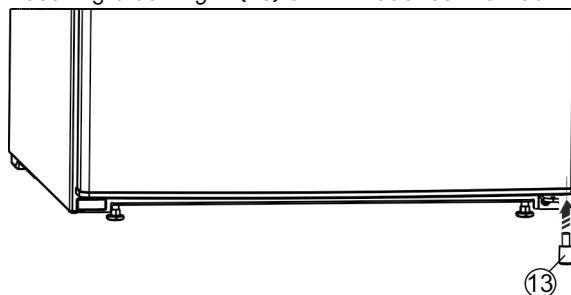

Fig. 11
- Insert the spacer *Fig. 11 (13)* back under the right-hand side of the door, as this is important for the stability of the appliance.